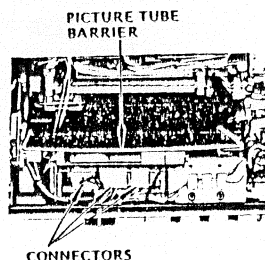

Fig. 10
1. Remove the upper cabinet, 3 connectors and the picture tube Barrier as shown in Fig. 10.